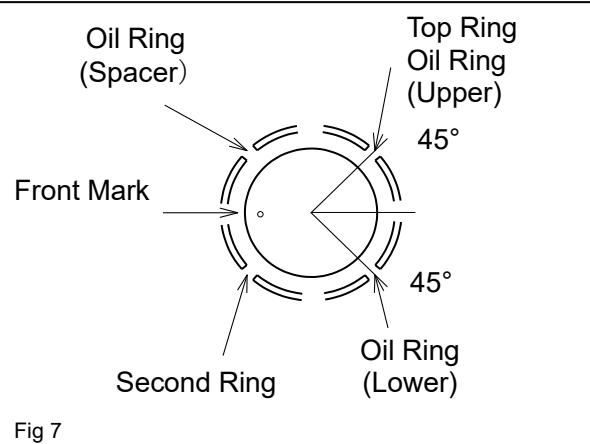

Fig 7
6.2 Adjust the position so that the piston rings mating ports do not overlap as shown in Fig 7.